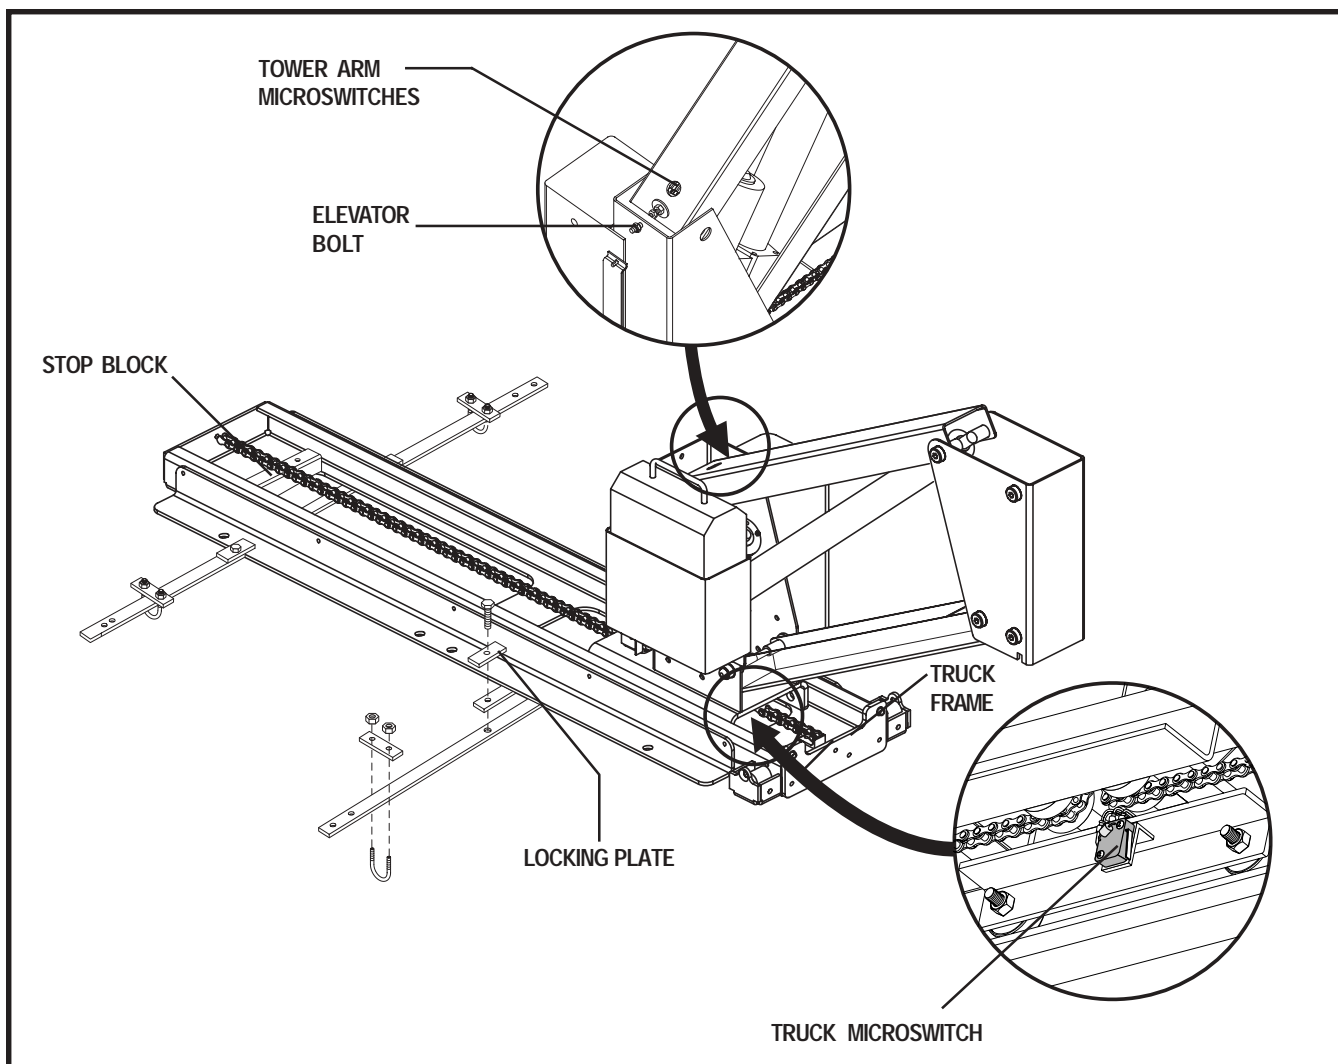

Figure 2. Backpacker Plus Installation
9. Reach under the Backpacker Plus truck frame and simultaneously press the microswitch and the “UP” button on the hand control to raise the tower 4-6 in. (10-15 cm). See figure 2.
11. Place a locking plate over each of the threaded holes in the floor plate and secure with the supplied bolts. Screw the bolts into the threaded holes, but do not fully tighten the hardware at this time. See figure 2.
12. Simultaneously press the two microswitches on the Backpacker Plus tower arm and the “DOWN” button on the hand control until the tower reaches its full extension. See figure 2.
Once the Backpacker Plus is properly installed, it will need to be adjusted for proper weight distribution using the elevator bolt located on the lift frame. See figure 2. The elevator bolt adjustment must be made using the mobility device that will be lifted.